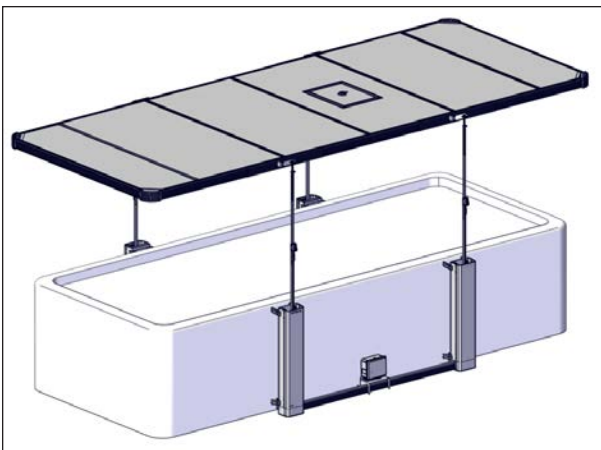

FIGURE 112: JACK RAISING
6. Raise the jacks until the system stops at its maximum limit, see Figure 112.